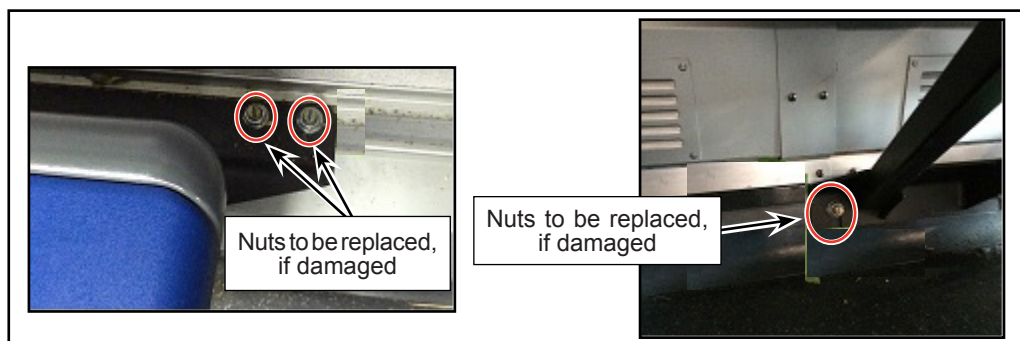

Figure 22 - Typical Location of Nuts
- 2.17. Discard the damaged nuts and install new hardware provided (see Figure 22).